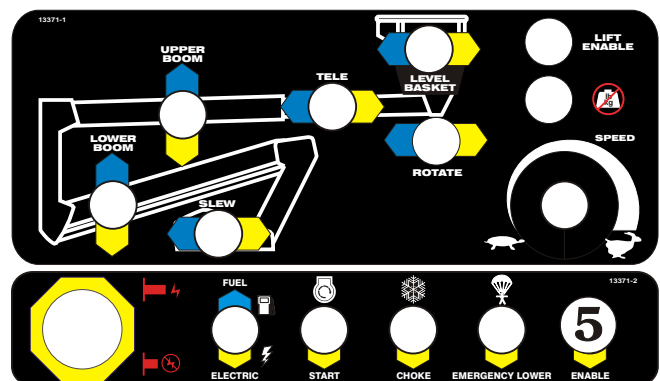

Figure 9.4 - Enable Switch
5. Operate the **Enable** switch ⑤ by pressing the switch down and hold it down (see Figure 9.4).